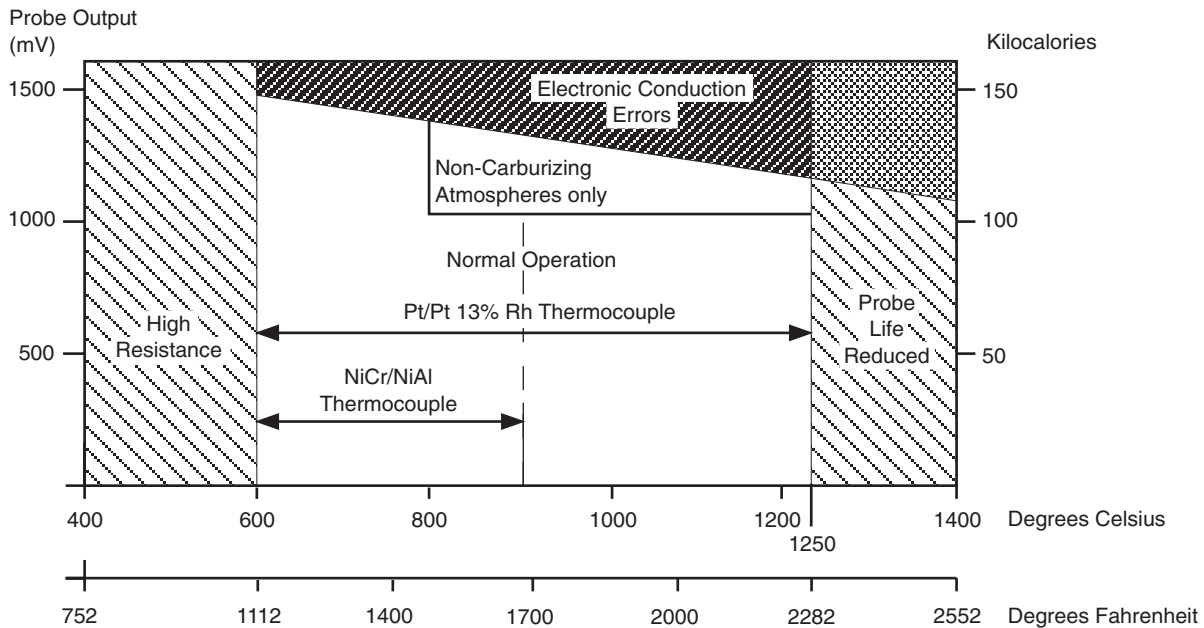

Fig. 5.1 Range of Operation
5.2 Range of Operation – Fig. 5.1
Electronic conduction is a function of both temperature and oxygen partial pressure and, for stabilized zirconia, it occurs at low levels of oxygen and high temperature. For the above reasons it is recommended that the probe is used at temperatures between 600°C (1112°F) and 1250°C (2282°F) – see Fig. 5.1. [900°C (1652°F) max. for Type K thermocouple].
Refer to Fig. 5.1. The lower limit of operation, determined by the onset of electronic conduction in the solid electrolyte is dependent on temperature. As a guide, the limits are given in Table 8.1 for 1% electronic conduction but, in practice, it may be possible to measure even lower oxygen potential levels without introducing significant errors.